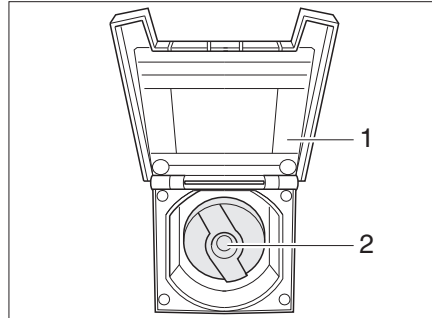

Fig. 135 Cap for the drinking water filler neck
- Open the cover flap (Fig. 135,1) of the drinking water filler neck.
- Insert the key into the locking cylinder (Fig. 135,2) and turn a quarter turn anti-clockwise.
- Close the cover flap (Fig. 135,1).
- Open the drinking water filler neck (Fig. 135).